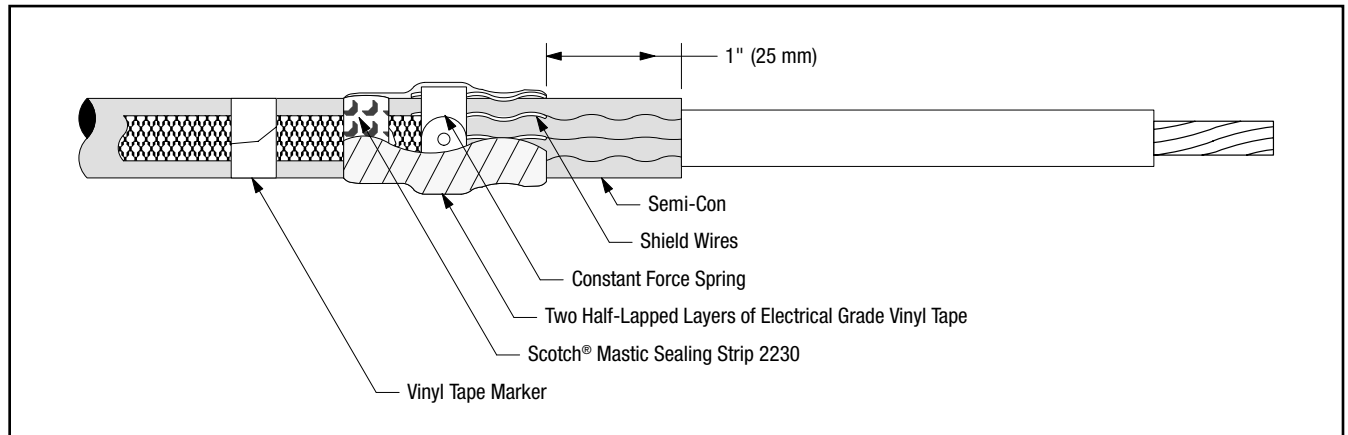

Figure 21
13.5 Wrap two highly stretched half-lapped layers of electrical grade vinyl tape around mastic seal, constant force spring and exposed shield wires (*Figure 21*).